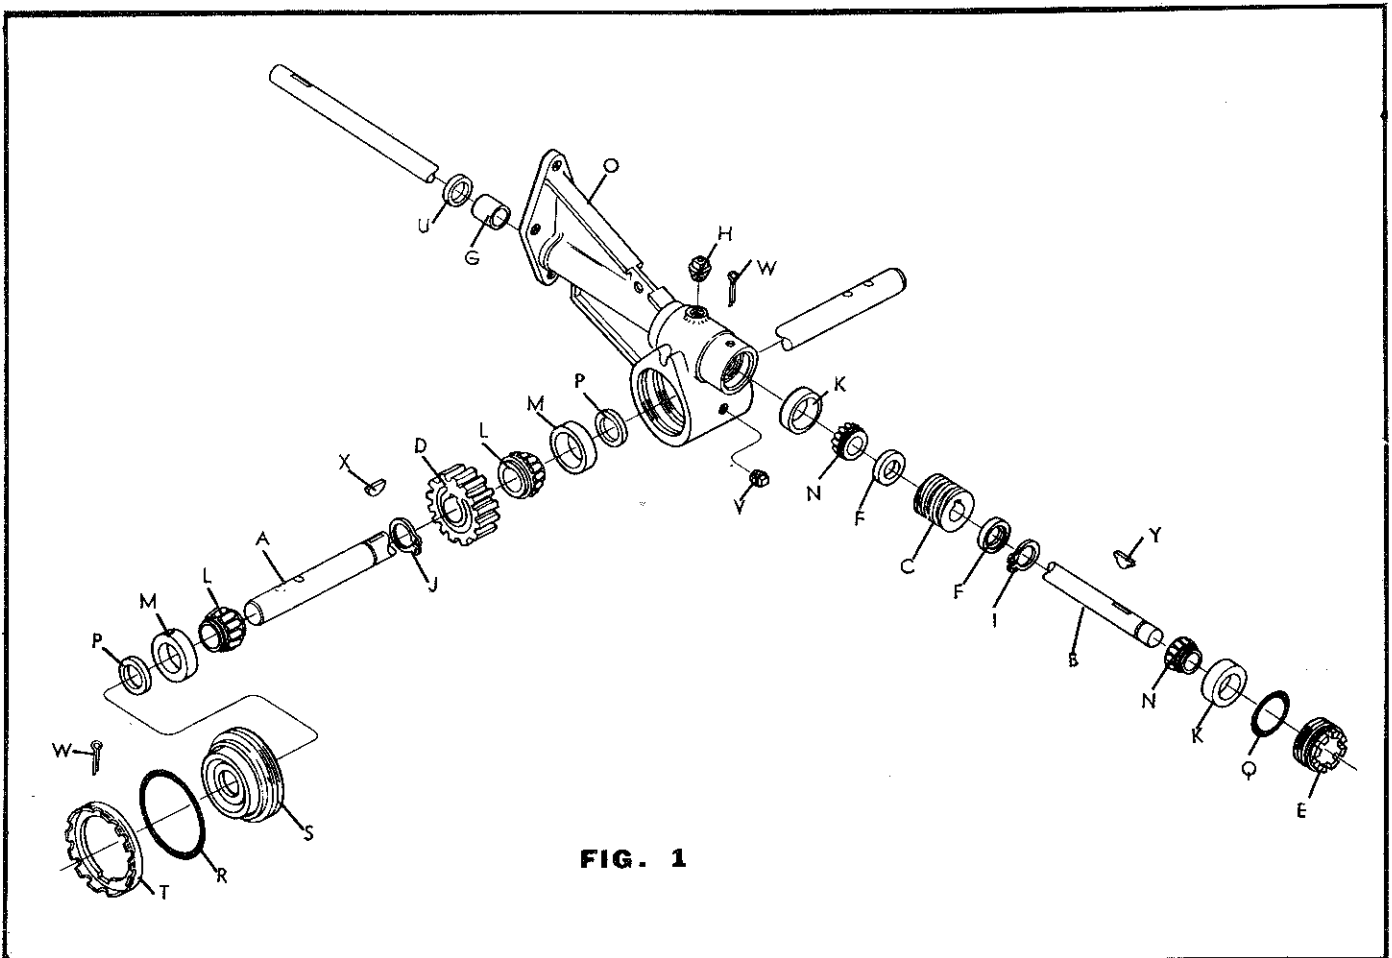
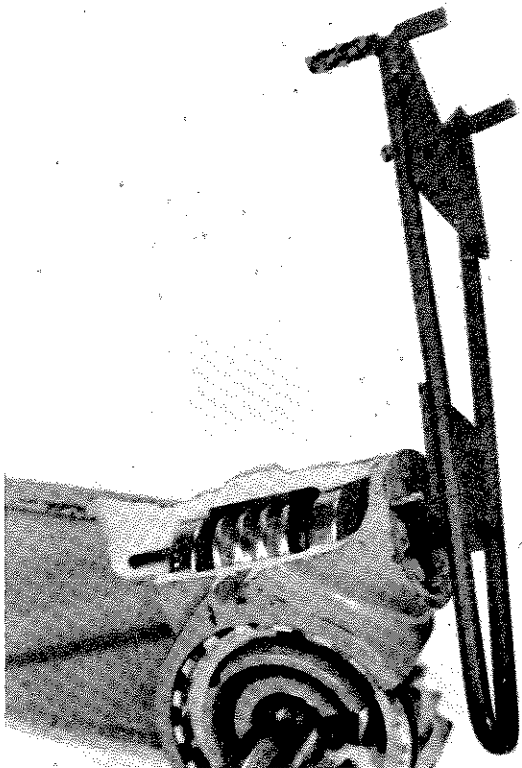
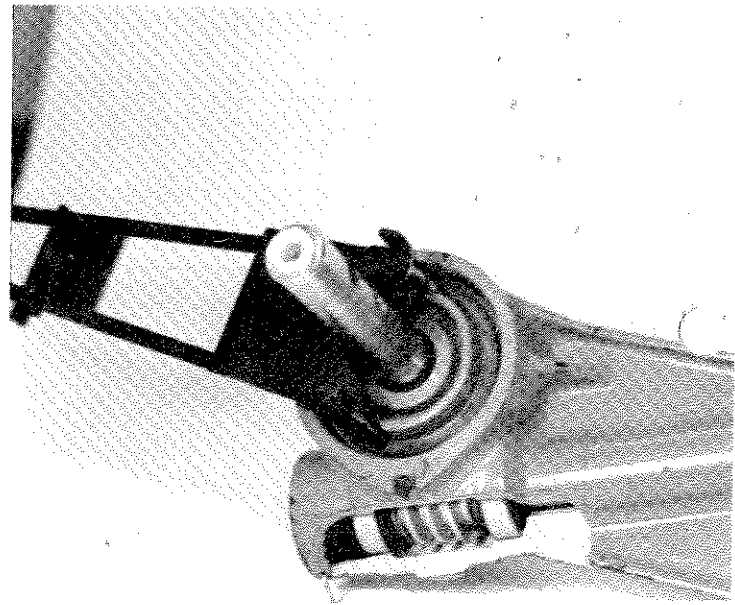
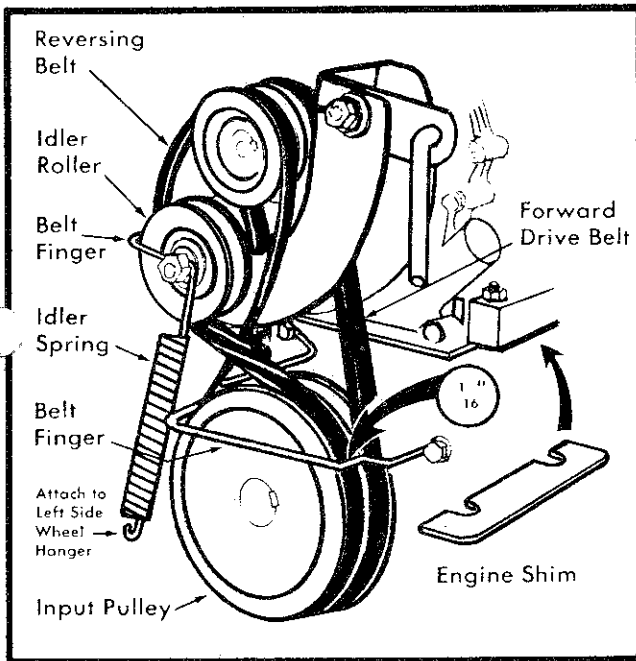

FIG. 1
FIG. 6
FIG. 7
FIG. 8
2. Remove cotter pins (Ref. W) from gear case. Using spanner wrench (tool part #31358) turn out front adjustment plug (Ref. E) and drain oil. (Fig. 1 & Fig. 6)
3. Using spanner wrench, turn out lock ring (Ref. T). Remove "O" ring (Ref. R) then turn out bearing cover (Ref. S) by using other side of wrench. (Fig. 1 & Fig. 7)
4. Slide out tine shaft and worm wheel as an assembly (Ref. A & D) and inspect for wear. (Fig. 1)
Worm Shaft Bearings--Tighten adjustment plug carefully to avoid damage to "O" ring, rap the side of gear case with a hammer, retighten adjustment plug, then back plug out one notch. Turn worm shaft by hand and inspect for end play by moving shaft in and out. No noticeable end play should be found. Install cotter pin. (Fig. 6)
Tine Shaft Bearings--Tighten the bearing cover, rap the bottom of case with hammer and retighten cover. Back off cover approximately $\frac{1}{4}$ of an inch. Push tine shaft in and out and turn input shaft by hand. If input shaft turns freely and tine shaft has no noticeable end play, bearings are correctly adjusted. Install lock ring very carefully to avoid damaging "O" ring. (Fig. 7)
11. Assemble gear case to tiller frame. Place pulley on input shaft and by using a straight edge, align it with engine pulley. Pulleys should be aligned within 1/16 inch of each other. Replace belt fingers and guides and adjust to 1/16 inch from belt with idler engaged. (See Fig. 8)
NOTE: When installing reverse belt, be sure to place belt on bottom pulley first then give belt one right hand or clockwise twist to form a figure 8, then place on engine pulley. (See Fig. 8)
13. Assemble gear case to tiller frame. Place pulley on input shaft and by using a straight edge, align it with engine pulley. Pulleys should be aligned within 1/16 inch of each other. Replace belt fingers and guides and adjust to 1/16 inch from belt with idler engaged. (See Fig. 6)
NOTE: When installing reverse belt, be sure to place belt on bottom pulley first then give belt one right hand or clockwise twist to form a figure 8, then place on engine pulley. (See Fig. 6)
14. Fill gear case to bottom of level plug hole with special SAE EP 140 weight lead base gear lube. Part number 4890 in 1/2 pint cans or 26405 in gallon cans. Place tiller on level surface. (See Fig. 7 & 8)